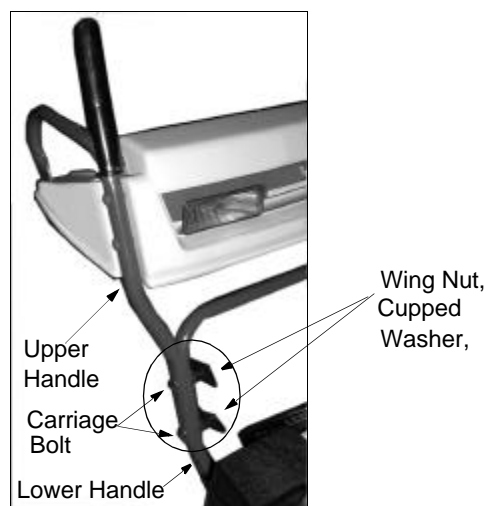

Figure 4
5. Secure the upper handle and lower handle with the two plastic wing nuts, cupped washers and carriage bolts previously removed. See Figure 4.